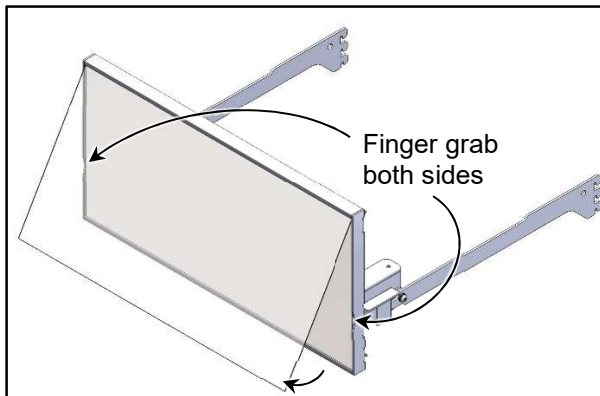

Figure 21
2. Remove the Lens from the Sign (See Figure 21).